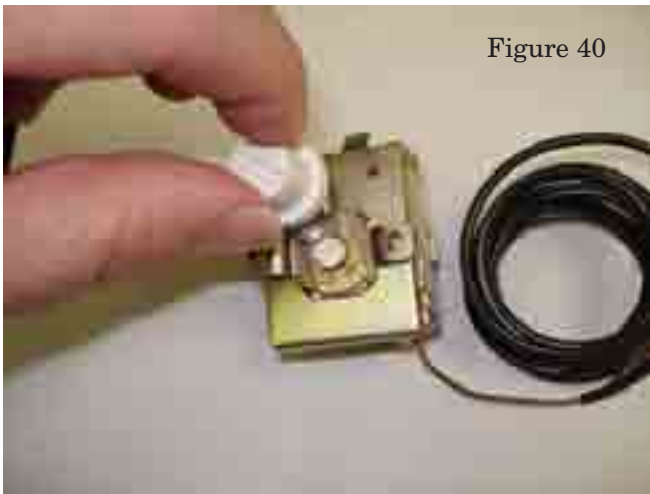

Figure 40
1. Remove the cover from the reset button on the new manual reset water temperature limit switch by turning counter clockwise. See Figure 40.